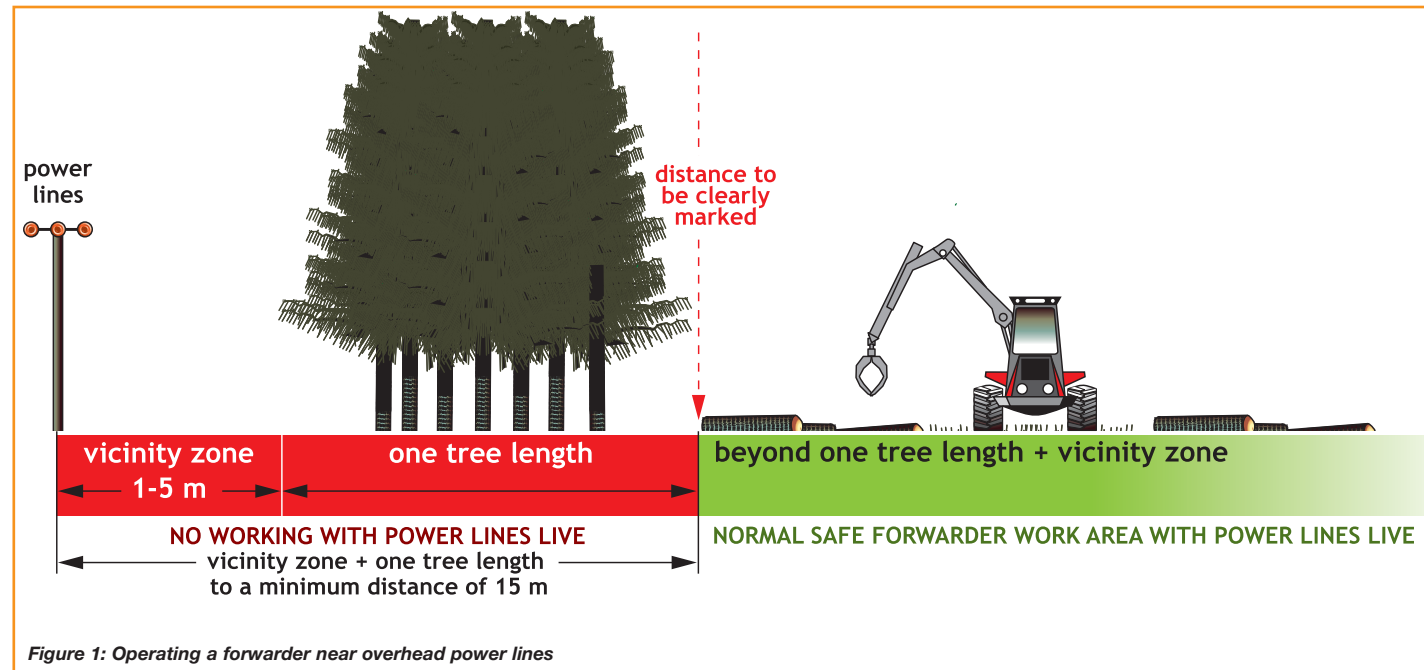

Figure 1: Operating a forwarder near overhead power lines
- 15 Do not operate the loader if any part of the machine or its load can come within one tree length + the vicinity zone (down to a minimum distance of 15 m) of energised overhead power lines (see *Figure 1*). The vicinity zone will vary between 1m and 5m depending on line voltages (see FISA leaflet 804 *Electricity at work: Forestry*).